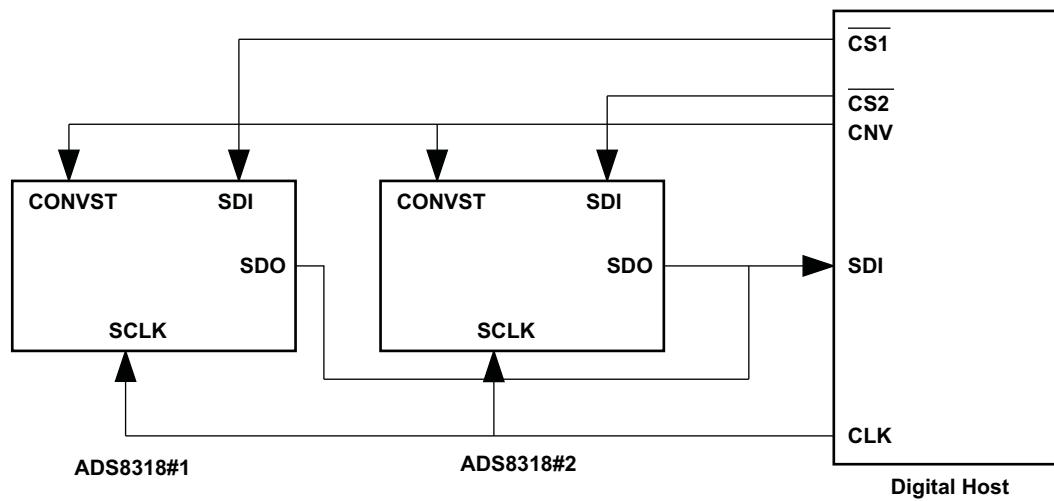

Figure 49. Connection Diagram, 4 Wire $\overline{\text{CS}}$ Mode Without Busy Indicator
brings SDO out of 3-state and the device outputs the MSB of the data. Subsequent to this the device outputs the next lower data bits on every falling edge of SCLK. SDO goes to three state after the 16th falling edge of SCLK or SDI (CS) high, whichever occurs first. As shown in Figure 49, it is possible to hook multiple devices on the same data bus. In this case the second device SDI (acting as CS) can go low after the first device data is read and device 1 SDO is in three state.